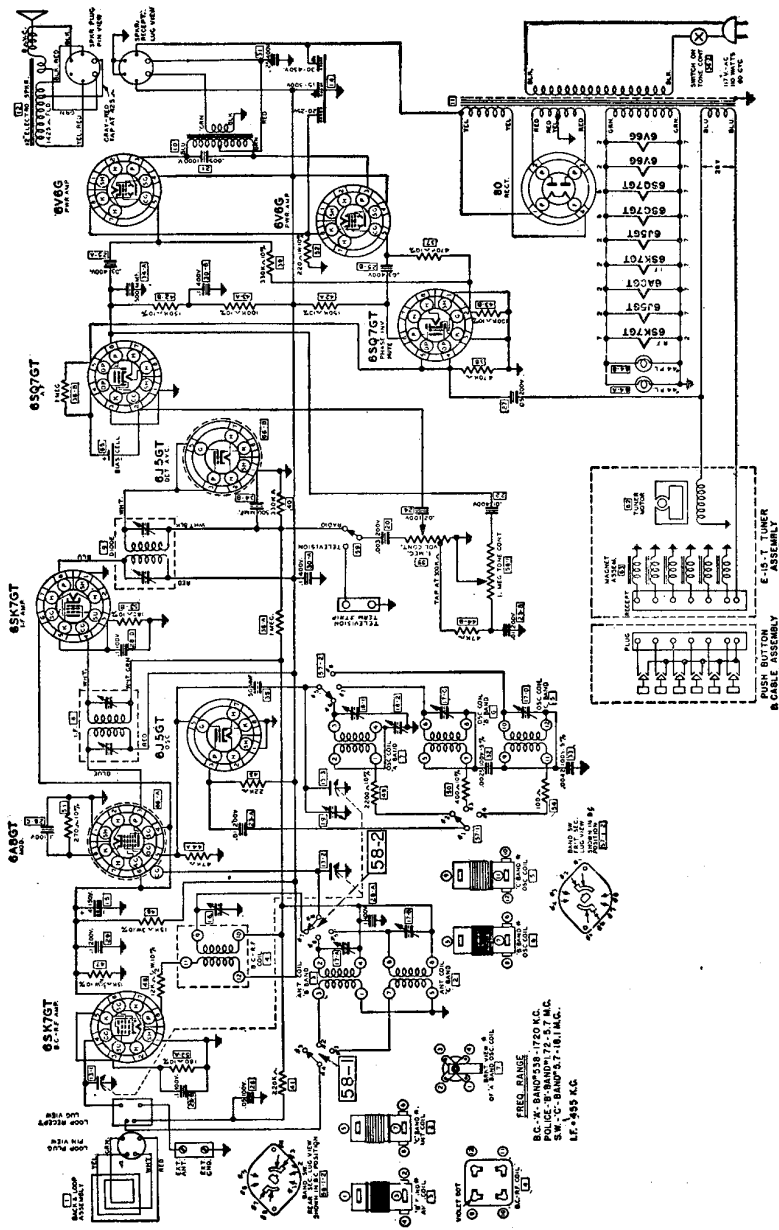

Fig. 16-9.—Schematic diagram of the Motorola 103K1 receiver.
on more than one band. The Motorola 103K1 receiver of Fig. 16-9 illustrates both of these points.
7. The receiver of Fig. 16-9 is inoperative. Signal check shows that the trouble is in the RF stage. A voltage check of the RF stage gives the following results:
9. The receiver of Fig. 16-9 has poor tone quality on local stations. Removing the RF tube and connecting the antenna to the plate terminal of the RF tube clear up the tone. What in the RF stage can cause this trouble? How would the serviceman confirm the cause?